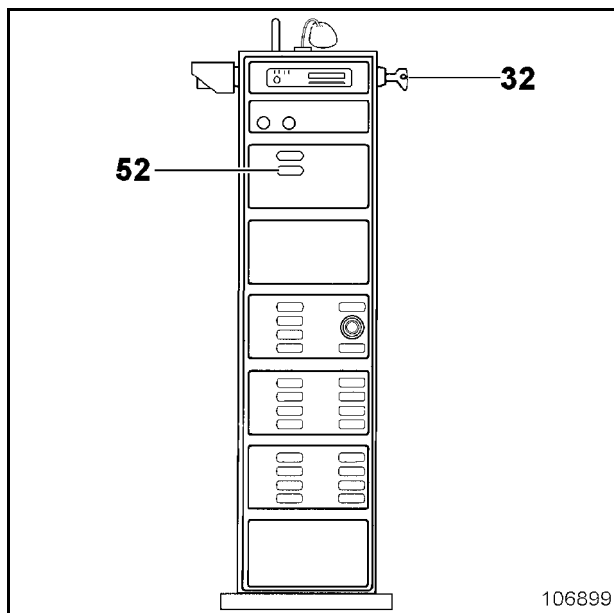

Fig. 3-17:
- Switch off electric motor, to do so actuate switch (52, Fig. 3-17:).